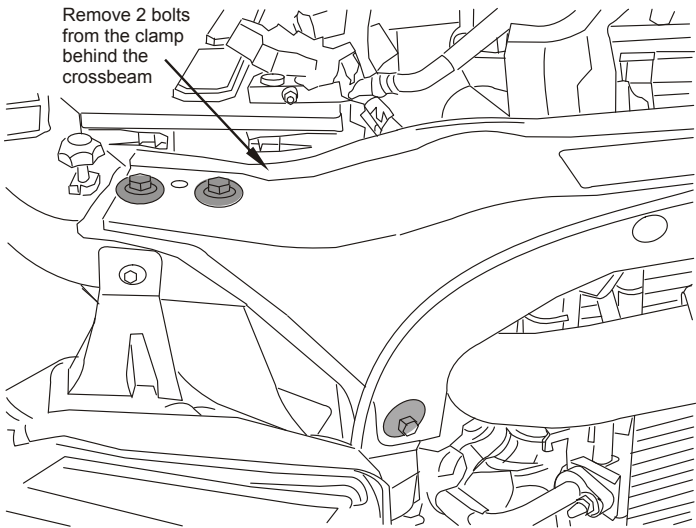

Figure 2.1
- Remove all the bolts from the top radiator cross-support (Figure 2.1).